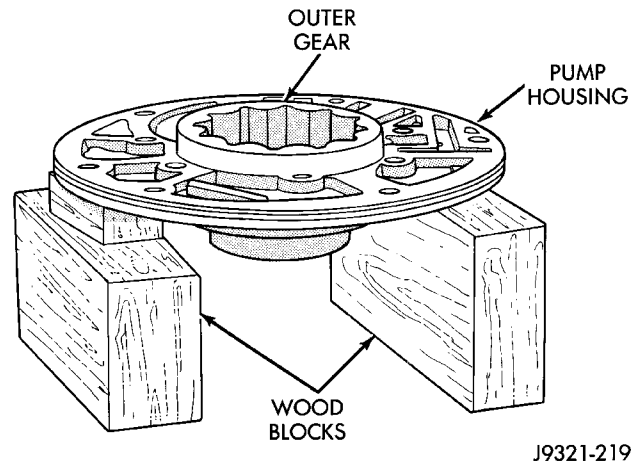

Fig. 147 Supporting Pump And Installing Outer Gear
(1) Lubricate gear bore in pump housing with transmission fluid.
(2) Lubricate pump gears with transmission fluid.
(3) Support pump housing on wood blocks (Fig. 147).
(4) Install outer gear in pump housing (Fig. 147). Gear can be installed either way (it is not a one-way fit).